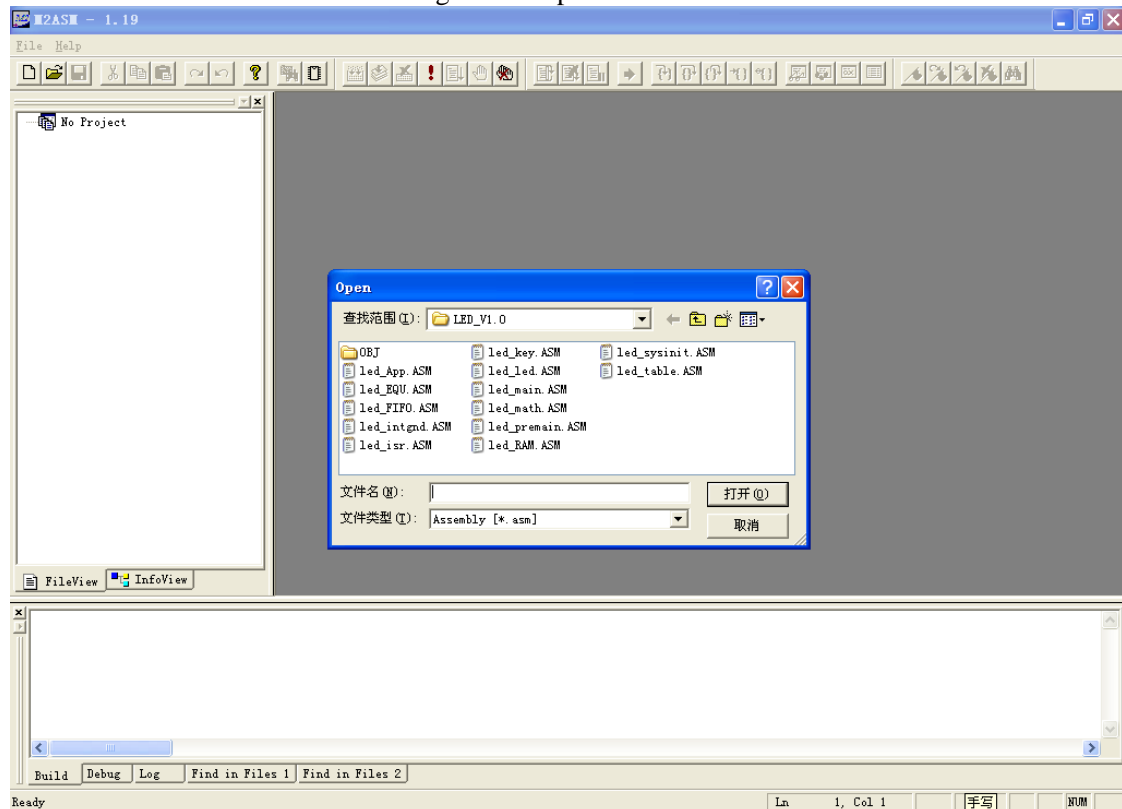

Figure 2-9 Select the File Name
Step 3: If the file is recently opened, it will be displayed in 1-9, then directly press the corresponding letter; if not, press “O” key on the keyboard (after execution, it is shown in Figure 2-9);